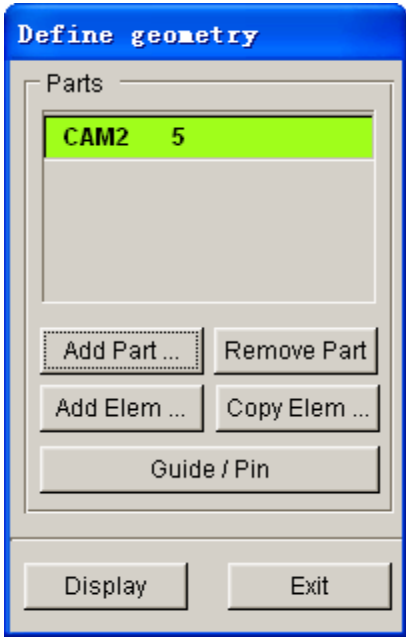

Figure 3.17 Tube geometry list
7. Click **OK** button to return to the DEFINE GEOMETRY dialog box. The **CAM2** part is added to the list of up_die. See Figure 3.17.